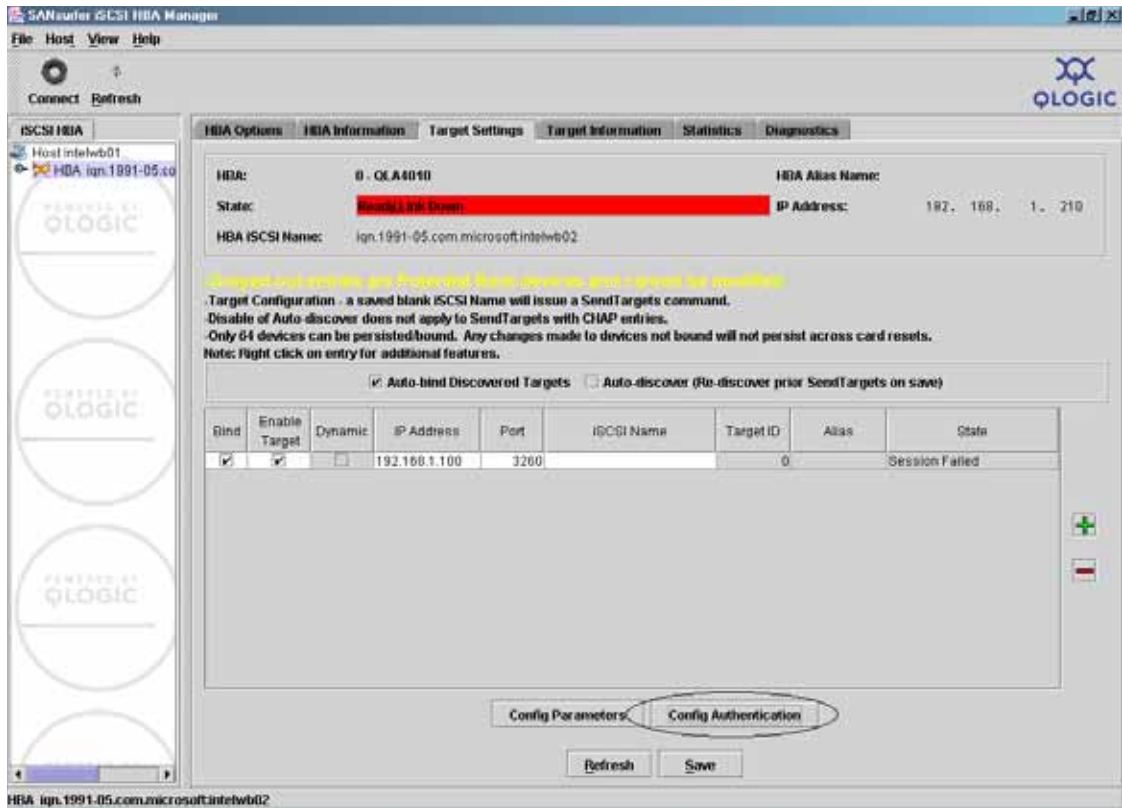

Figure 119 SANsurfer iSCSI HBA Manager, Target Settings tab
- ◆ To configure your iSCSI targets, click the **Target Settings** tab from the **SANsurfer iSCSI HBA Manager** dialog, as shown in Figure 119.
- You can add as many targets as needed. If you need to enter CHAP security for any target, click **Config Authentication** at the bottom of the dialog, as shown in Figure 119 on page 143, to get the **Authentication Configuration** dialog, shown in Figure 121.
- ◆ To save all target settings, click **Save** at the bottom of the **SANsurfer iSCSI HBA Manager, Target Settings** tab, as shown in Figure 119 on page 143. You will be prompted for the SANsurfer security password. The default password is **config**, but it can be changed.